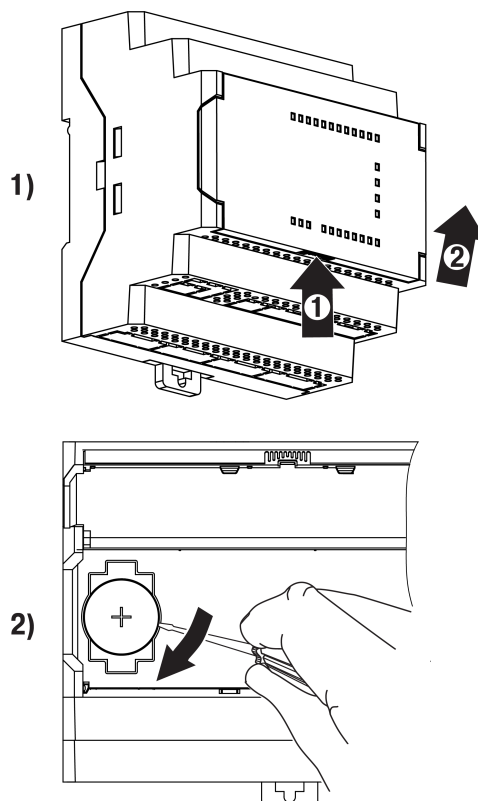

Fig. 8.1 Battery replacement
1. Open the front cover (*Fig. 8.1*).